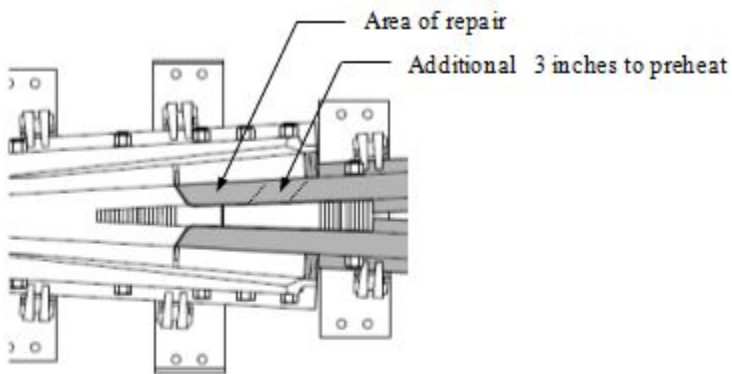

Figure 109P *Standard RBM Heel Leg Extension*
1. Mark the area of repair on top of the rail using a straightedge and soap stone. (See Figure 109P)